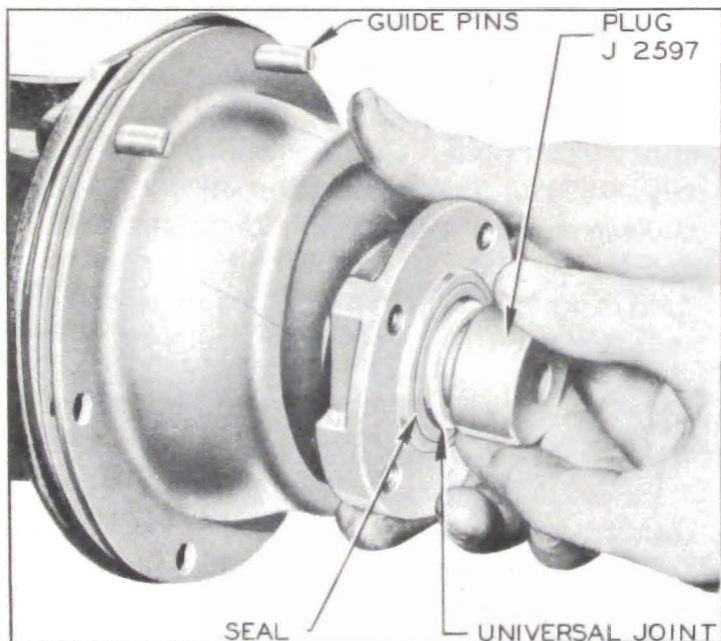

Figure 4-39—Installing Torque Ball and Retainer
7. Install guide pins in upper bolt in rear bearing retainer flange. See figure 4-39. Place one gasket or shim (having 3 notches in outer edge) and the inner retainer on guide pins, with oil drain hole and notch in edge of retainer straight down.
10. Install torque ball and outer retainer with "TOP" sides up, using shims of sufficient thickness to fill the space between flanges of inner and outer retainers. Hold plug of installing tool firmly against end of universal joint until oil seal has moved forward upon the universal joint, then remove the plug. See figure 4-39.